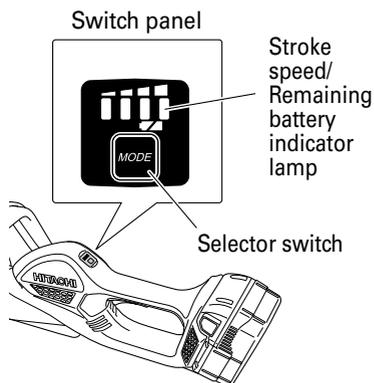

Fig. 8
5. Remaining Battery Indicator (Fig. 8)